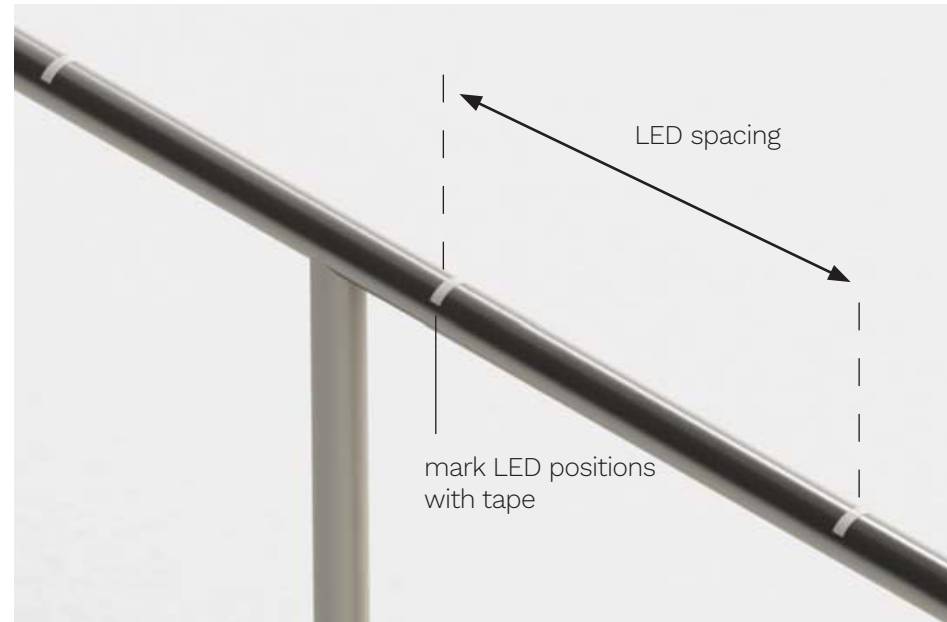

Fig 1.1. Measure and mark the LED Puck positions on the rail.
1.1 Measure and mark the LED Puck positions on the rail using a short length of masking tape (Fig 1.1).